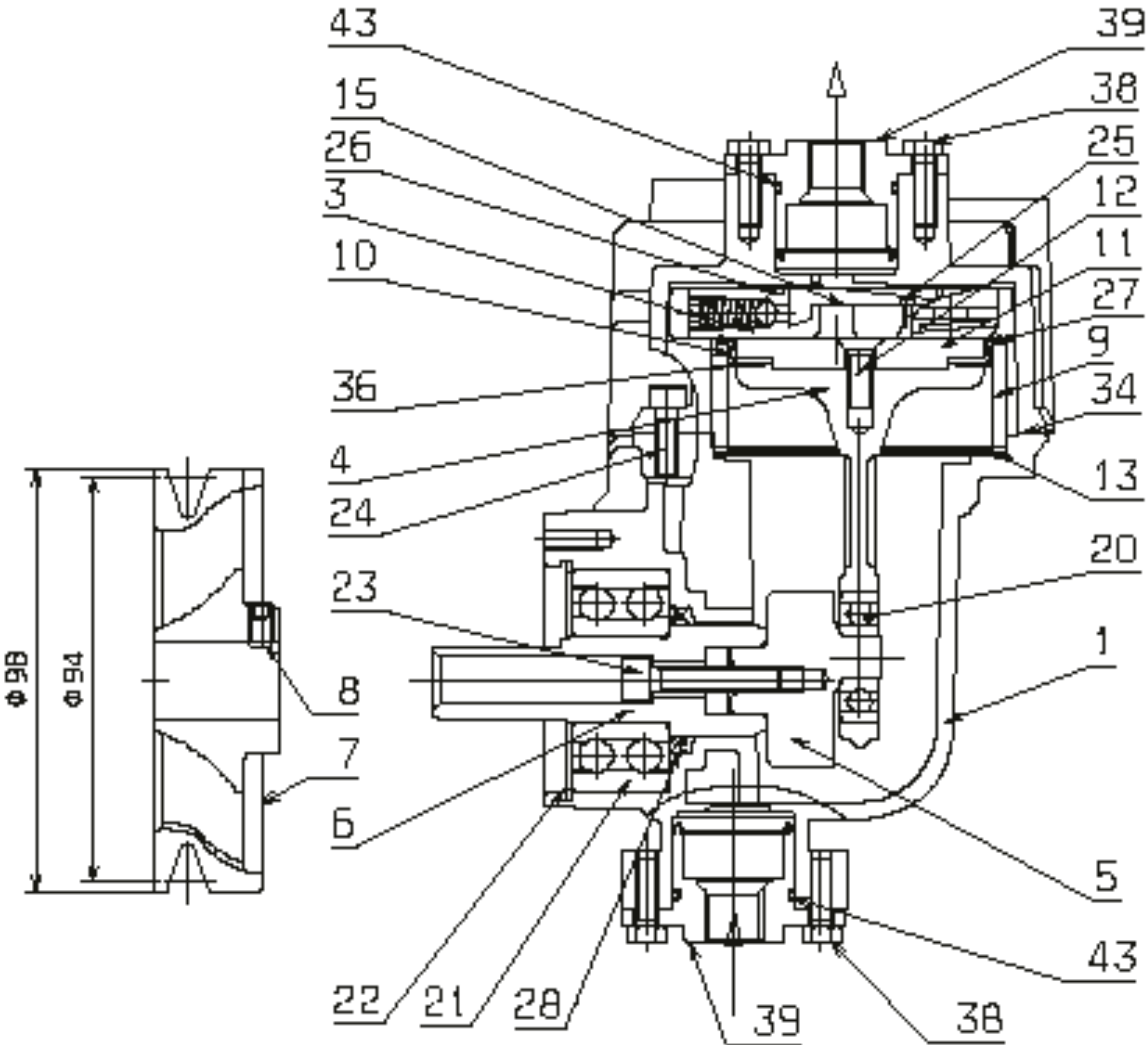

fig. 1
The following description refers to the **fig.1**. The piston pump works on the floating piston principle, i.e. piston rod and piston form a rigid unit.
The fan pulley (fig.1 pos. 7) must only be mounted in the shown position onto the axle.
To loosen or tighten the attachment screw (fig.1 pos. 8) only use an undamaged hexagonal allen key.
Within the type approval the user is **obliged** to make a visual check of the flame arrester, at appropriate intervals of time. (fig.1, pos. 39) for dirt and corrosion then, if necessary, clean or change it. **Only Dürr original parts must be used, otherwise the type approval will be cancelled.**